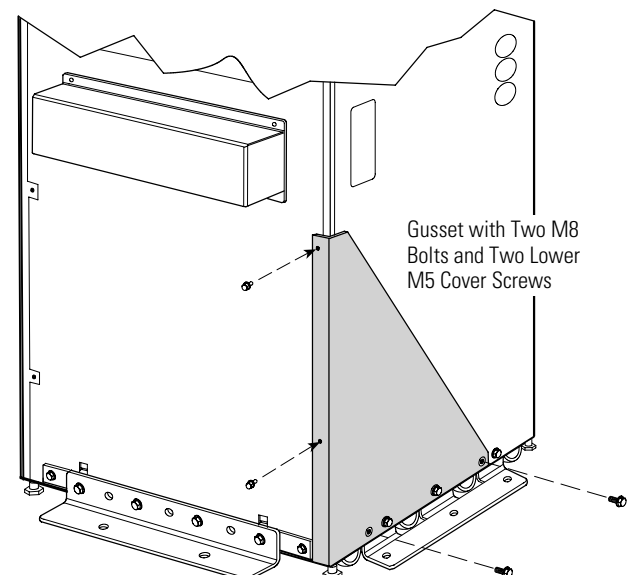

Figure 3. Installing the Gusset
6. Install the gusset on the side of the cabinet using the two lower M5 cover screws and two supplied M8 bolts (see Figure 3).